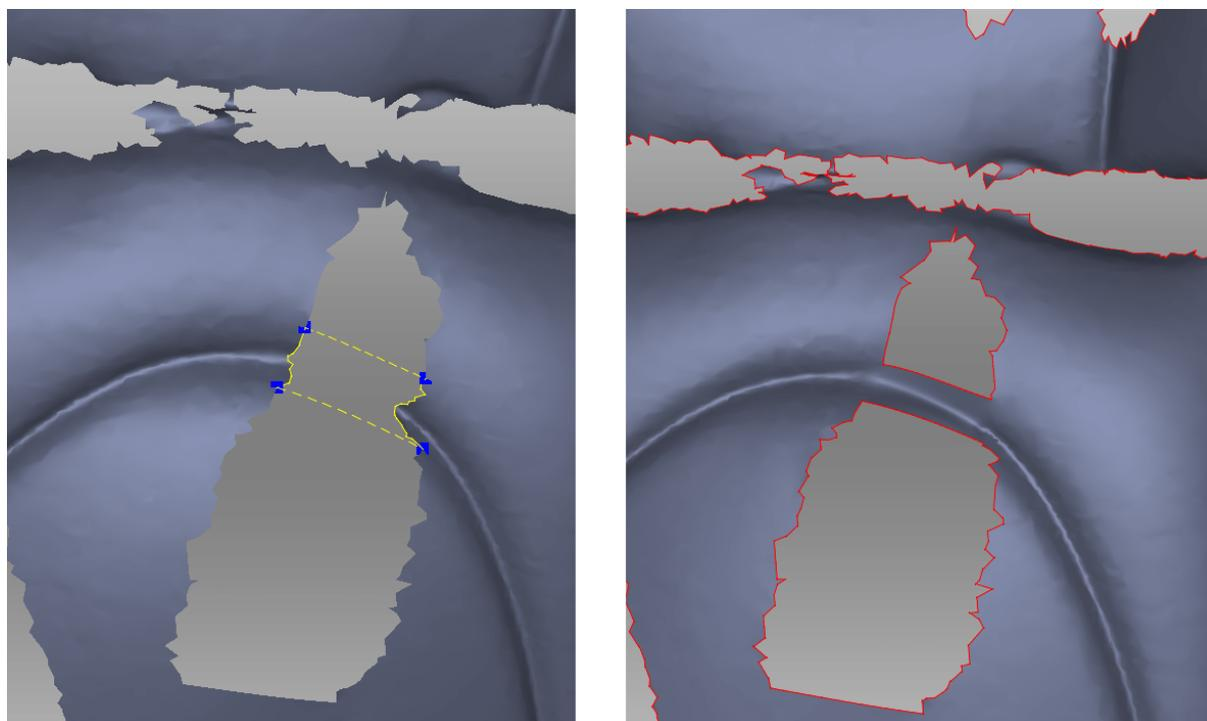

Figure 86: Specifying fragments. Correct fragments can resolve original geometry.
2. Specify two fragments3 between which a bridge will go (Figure 86). To this end, perform the steps below twice (for each fragment).
Preserve the original geometry (Figure 86)	Clear the Smooth edges first checkbox